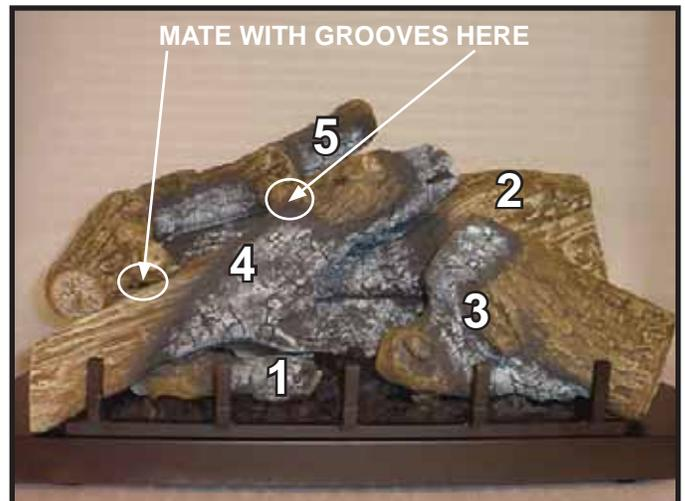

**Figure 2.**
**LOG #4 (SRV2066-705)** Place log #4 so that the notch is touching the first grate tine and is laying in the flat spot of log #2. The right end of log #4 should touch the back refractory panel. See Figure 2.